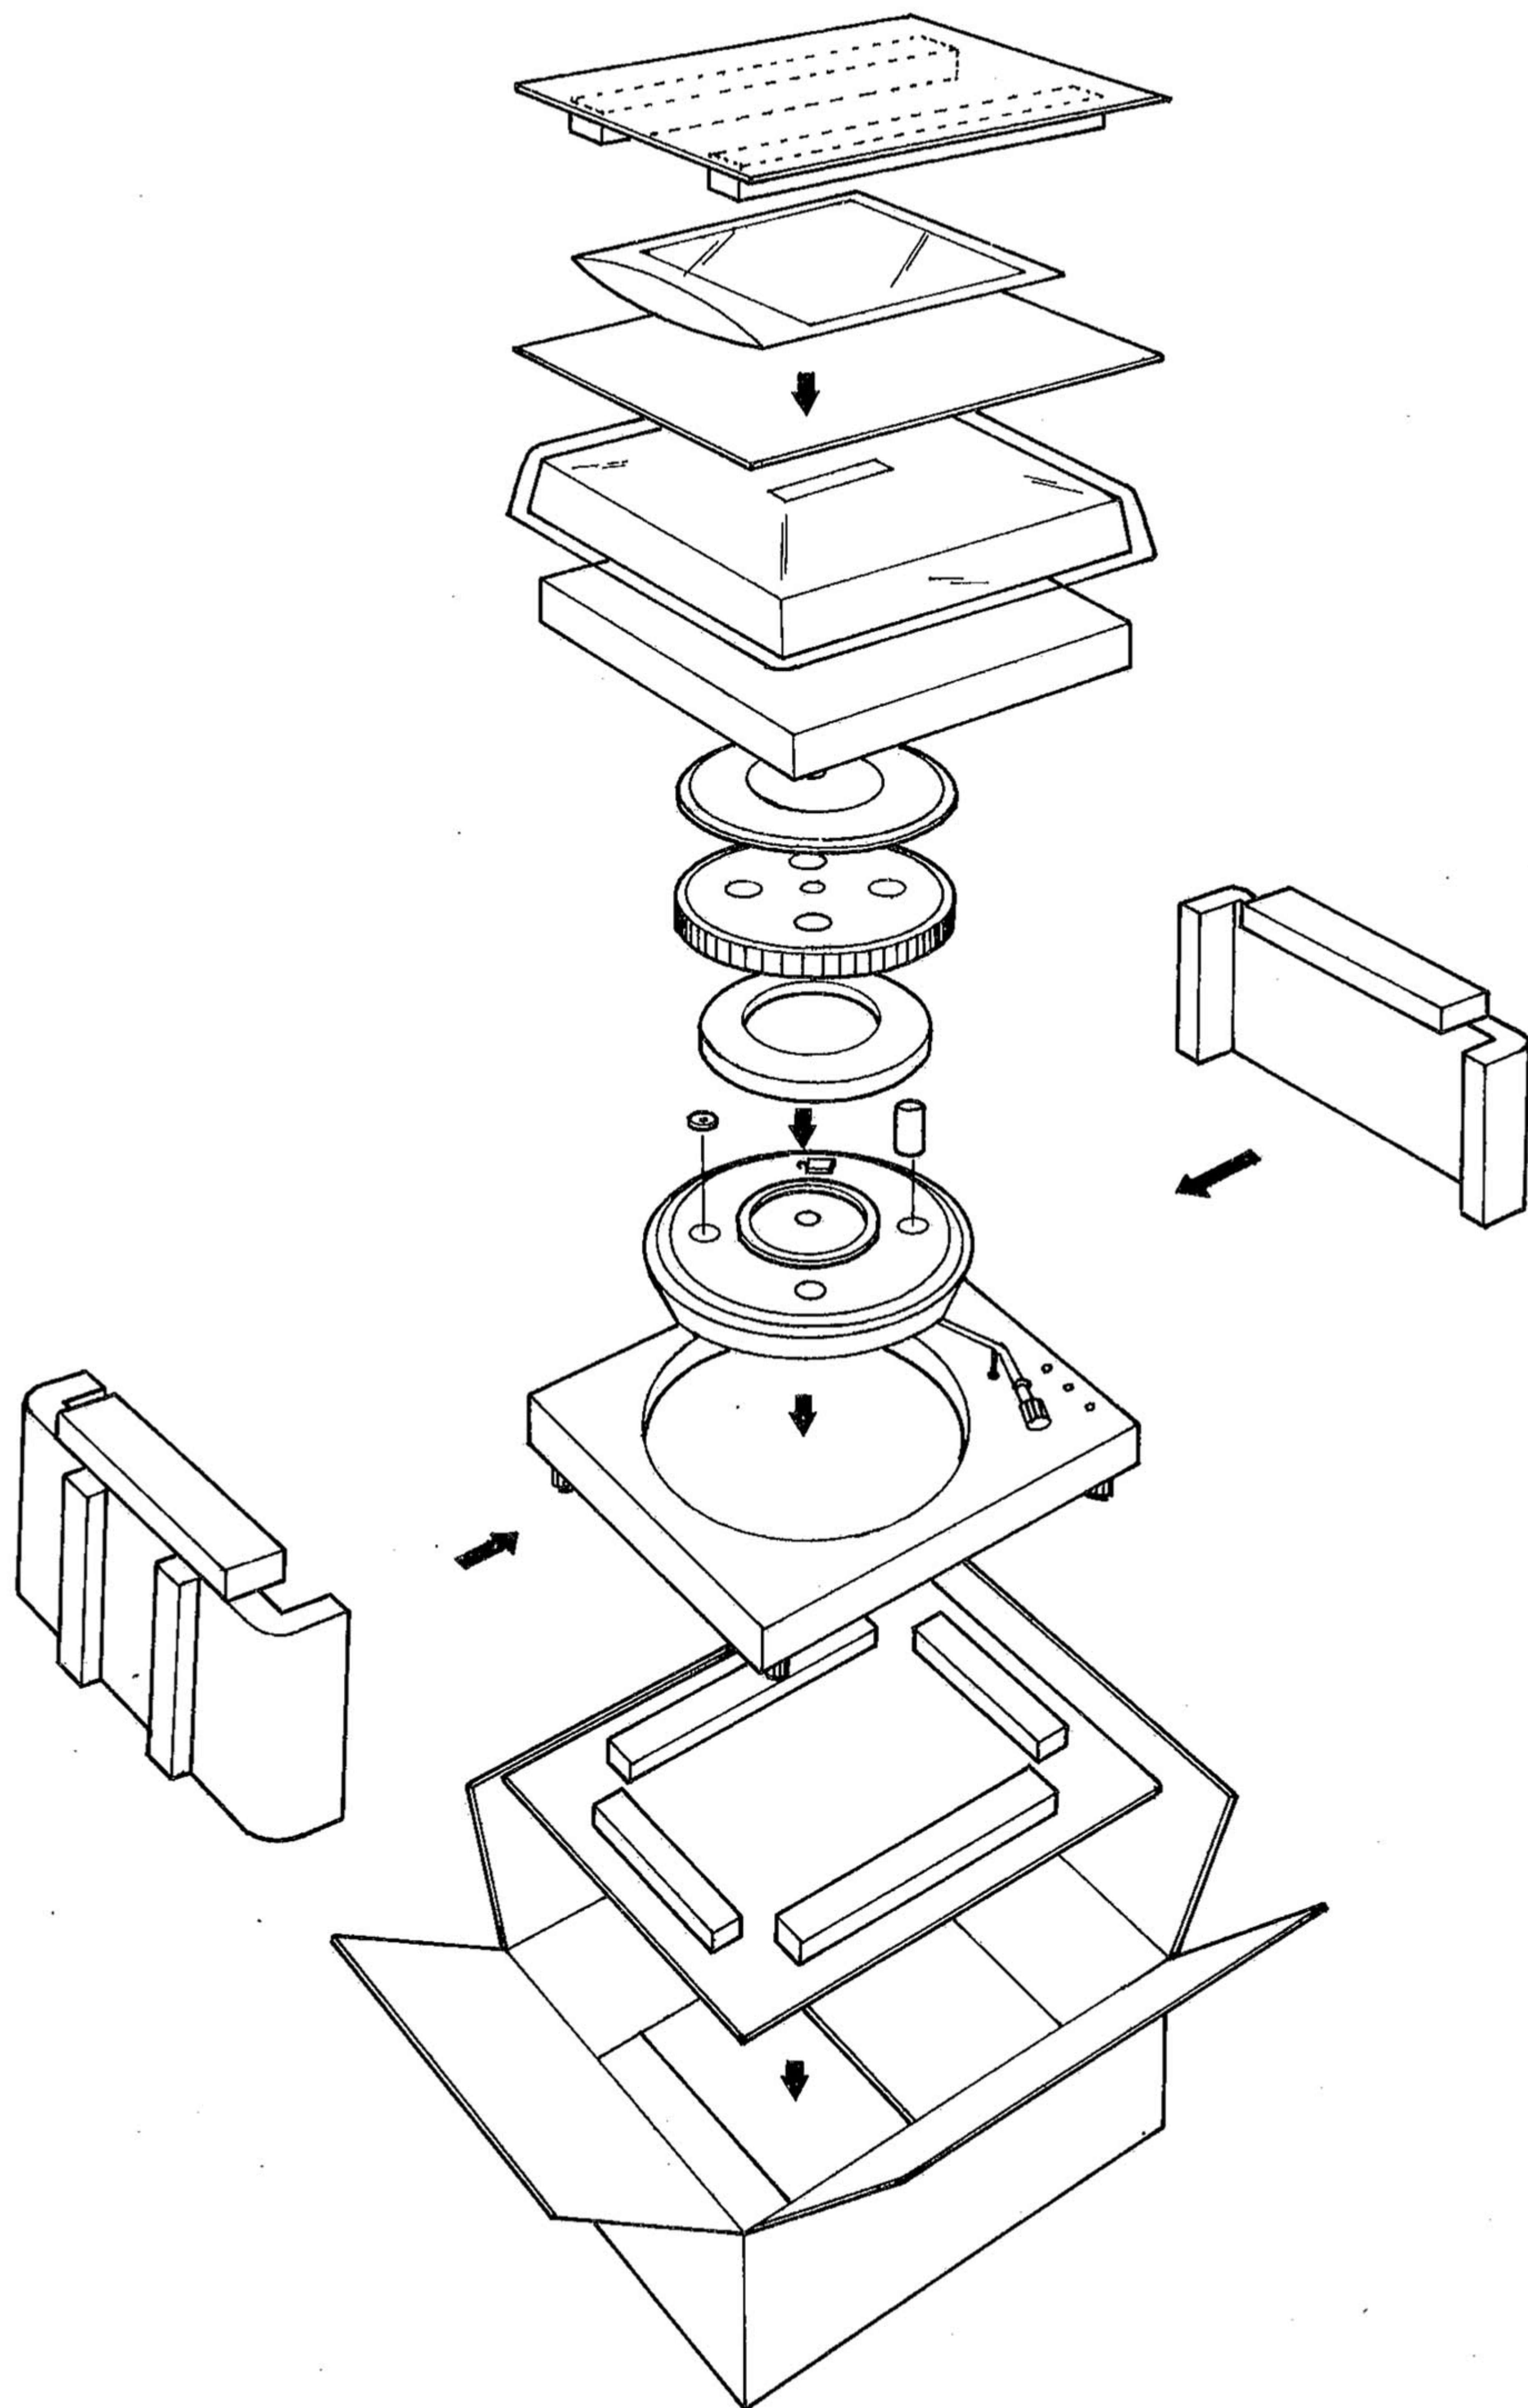

Figure 5. Packing Instructions
- a. Pack the unit carefully, using the original material as shown in Figure 5.